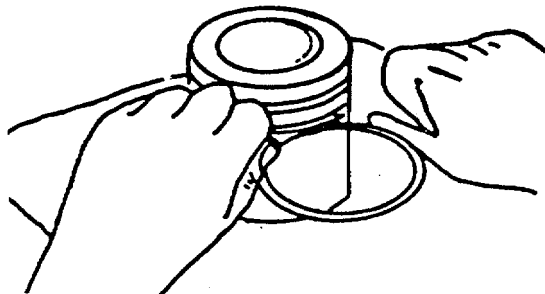

FIGURE 4-37. Measuring Piston Ring Clearance.
- c. Use a new piston ring to measure the clearance in the ring groove as shown in FIGURE 4-37.